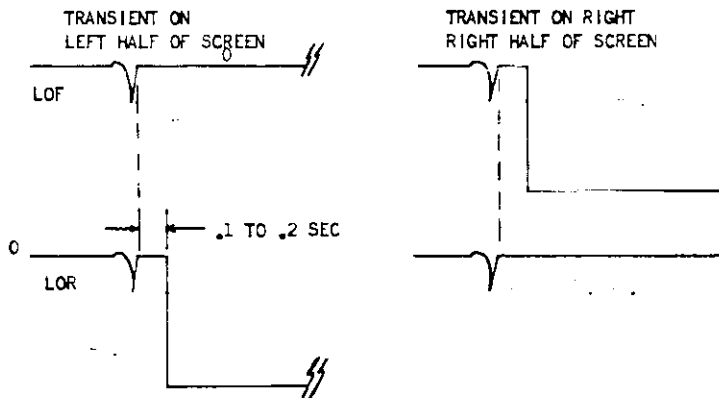

FIG. 4
- C. CLOSE SW8 WHILE SCOPE TRACE IS ON LEFT SIDE OF SCREEN. REPEAT SEVERAL TIMES TO CHECK FIGURES IN FIG. 4.
- D. REPEAT WHILE TRACE ON RIGHT HALF OF SCREEN CHECKING FIG. 4.